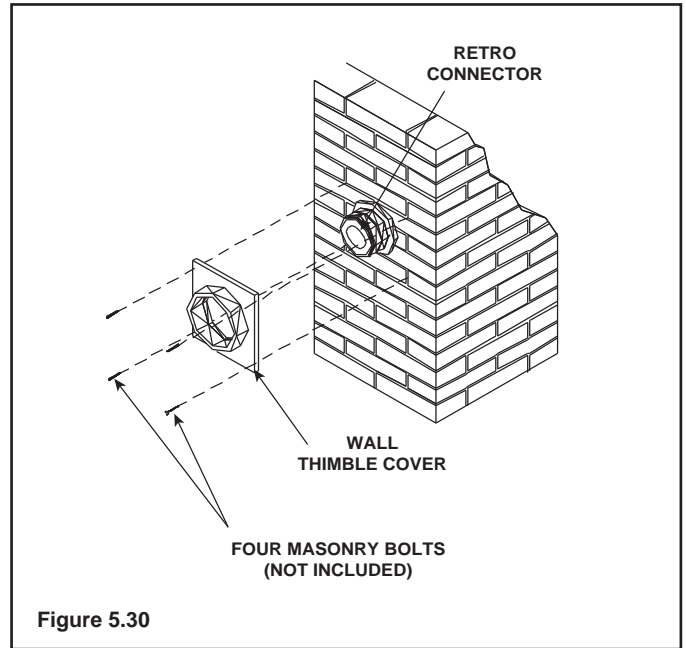

Figure 5.30
10. Slide wall thimble cover over retro connector and secure with masonry bolts (Figure 5.30). If you have a framed wall in front of the masonry, use wood screws to mount wall thimble cover to framed wall, over retro connector and 10 in. (254 mm) square framed opening (Figure 5.25). If needed, add a section of direct vent pipe to the retro connector in order to extend through the opening in the wall thimble cover.